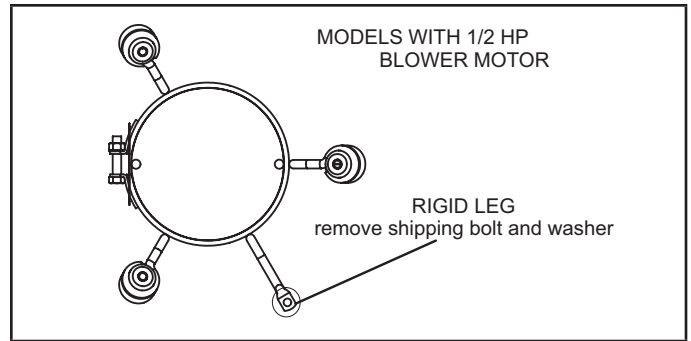

FIGURE 12
**NOTE** - Units with 1/2 hp blower motors are equipped with three flexible legs and one rigid leg. See FIGURE 12. The rigid leg is equipped with a shipping bolt and a flat white plastic washer (rather than the rubber mounting grommet used with a flexible mounting leg). **The bolt and washer must be removed before the furnace is placed into operation.** After the bolt and washer have been removed, the rigid leg will not touch the blower housing.